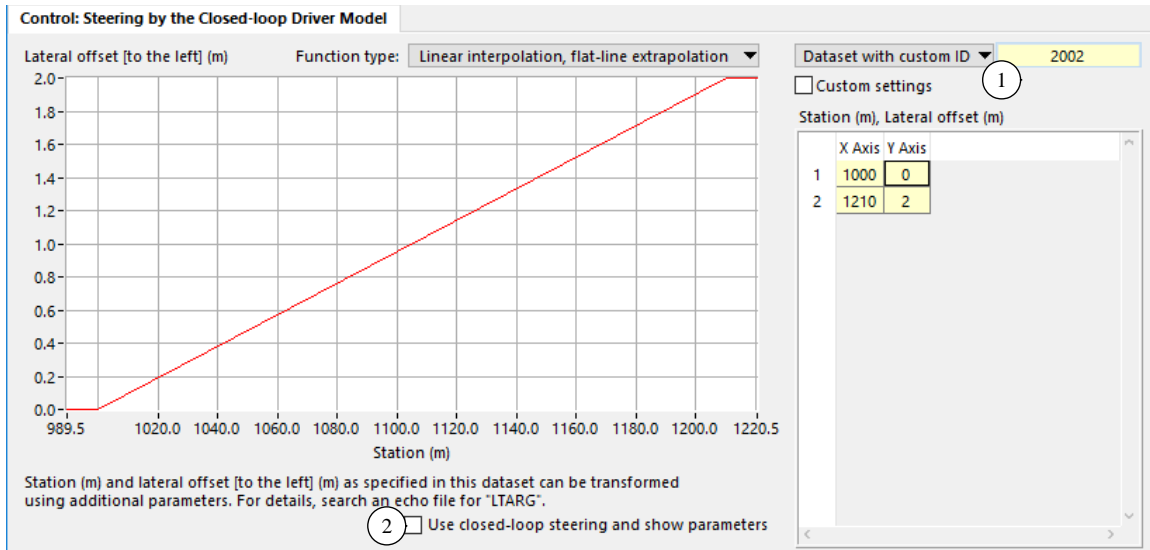

Figure 19. LTARG datasets are created using the Driver Model screen.
New `LTARG` datasets are defined in the VS Browser with the library screen **Control: Steering by the Closed-loop Driver Model** (Figure 19). The screen has an option for setting a custom ID to the dataset ①, and a checkbox to show driver control parameters ②. If the **Driver Model** dataset exists for the sole purpose of adding an `LTARG` dataset, uncheck the box ② (as shown) to avoid interacting with driver model settings made elsewhere.
The LTARG dataset shown in Figure 19 is one of three that were used in a simulation. All three are listed in the Echo file (Figure 20).